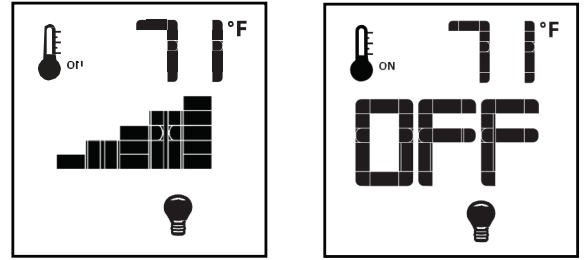

Figure 69: Dimmer light control.
The auxiliary function controls the AUX power outlet by the dimmable light control. To activate this function use the Mode Key (Figure 55) to index to the light bulb icon (Figure 69). The intensity of the output can be adjusted through six (6) levels. Use the Up/Down Arrow Keys (Figure 55) adjust the output level (Figure 69). A single “beep” will confirm reception of the command.